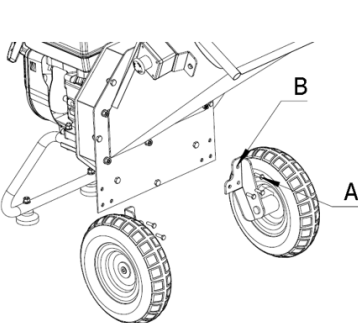

Figure 3
**EN/**Install the wheel support (See Figure 3)
- 1.Align the wheel support (B) with the screw holes in the box.
2. Using the bolts (A) to secure the wheel support on the box.